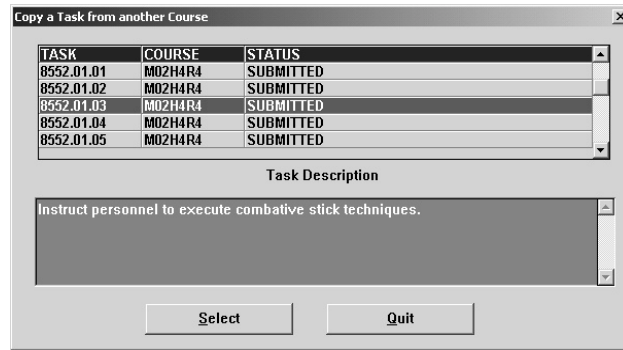

Figure 6-40. Copy a Task From Another Course
2. Choose the desired course and click on **Select**. The Copy a Task From Another Course selection list box (Figure 6-40) opens. Note that the description of the highlighted task appears in the field below the list of tasks.